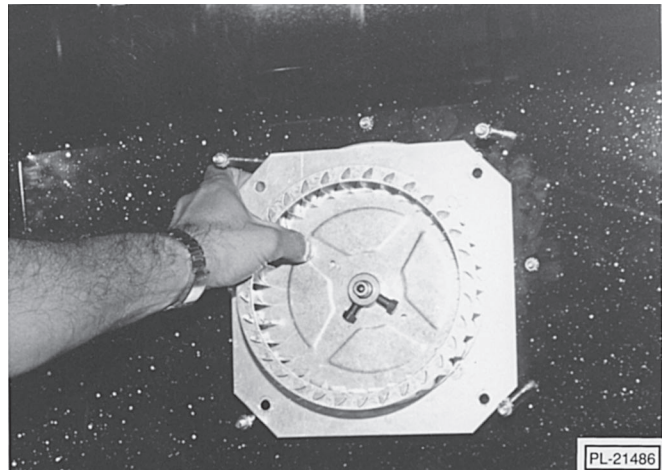

Fig. 56
9. Pull motor assembly forward through oven cavity and away from rear cavity wall (Fig. 56).